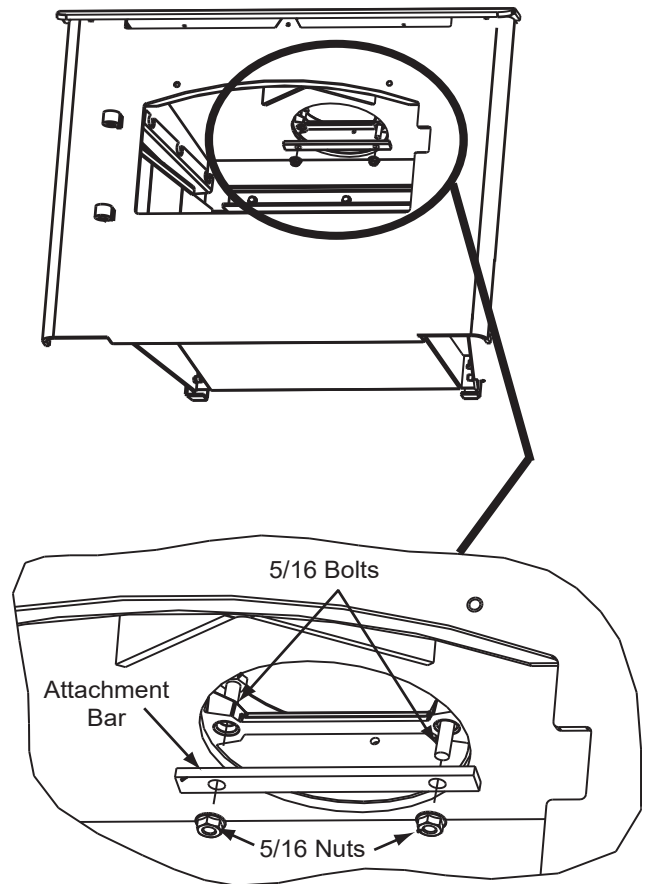

Figure 19.3
1. Once you have the appliance in place and secured, reach up through the flue opening and grab the attachment bar and pull down inside flue opening (**Figure 19.3**).